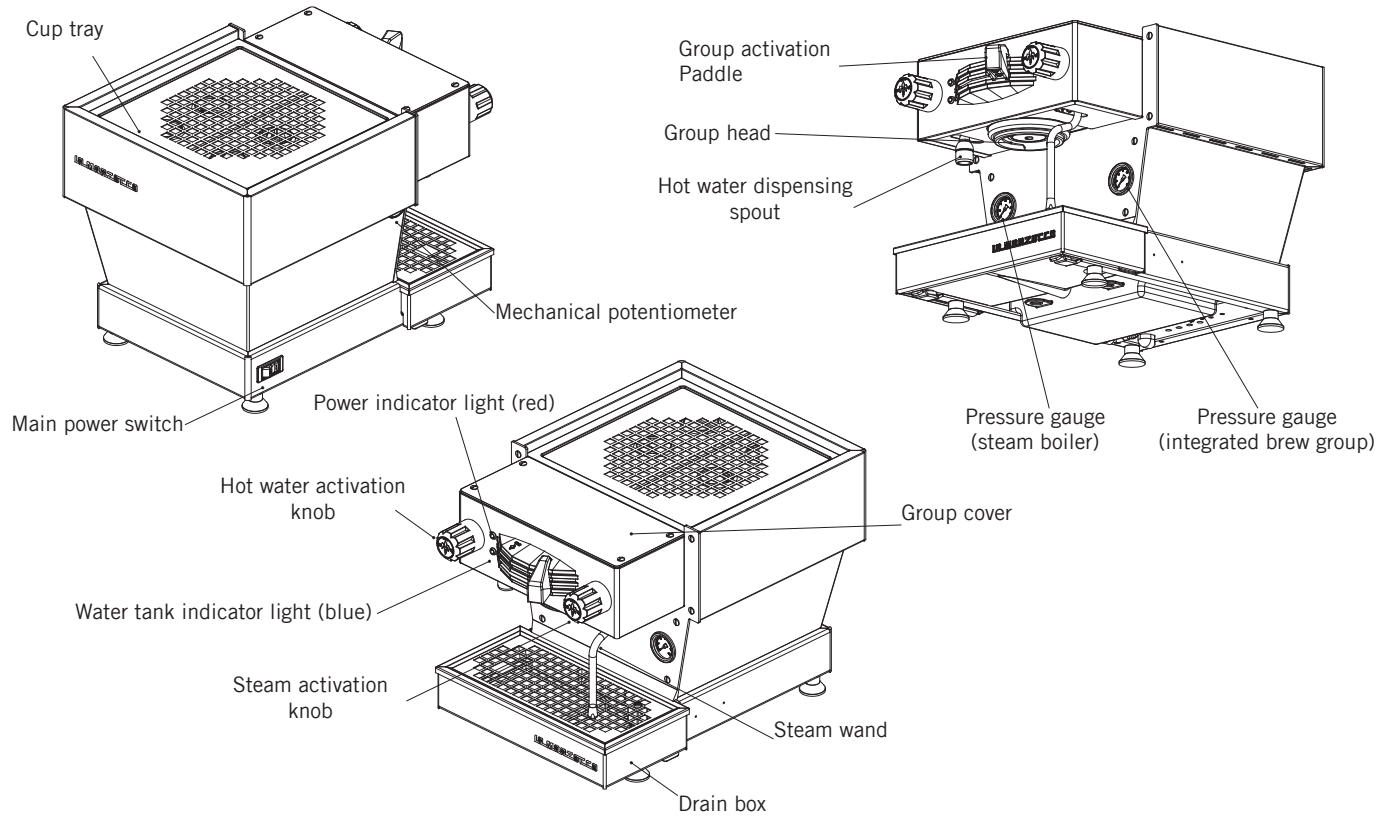

Figure 1 - Machine Description
**2. Brewing coffee.** It is now possible to remove the portafilter to make a coffee beverage. Place some ground coffee in the portafilter basket using the single or double basket. Press down on the ground coffee with the supplied tamper and install the portafilter on the linea mini. Move the paddle handle from right to left to begin brewing (see Fig.1 page 8).